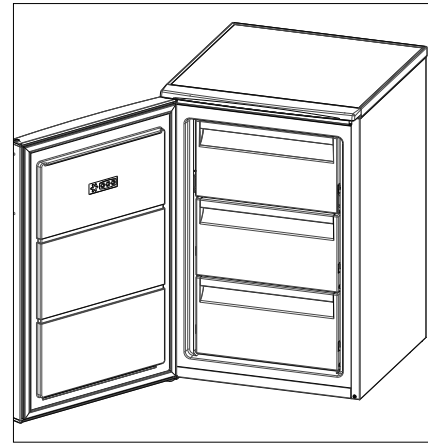

Fig. 14
The opening direction of the freezer door (4) is now changed (Fig. 14).